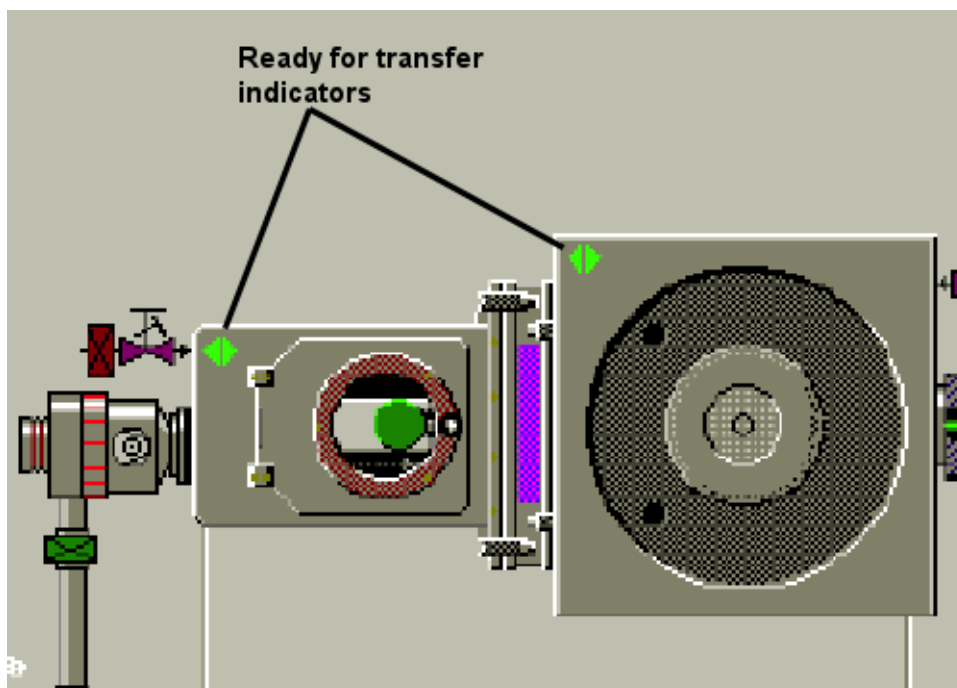

Figure 5-13 Ready for transfer indicators
- 6 Check that the green ready for transfer indicators are displayed on both the loadlock and process chamber pumping page panels (see Figure 5-13).